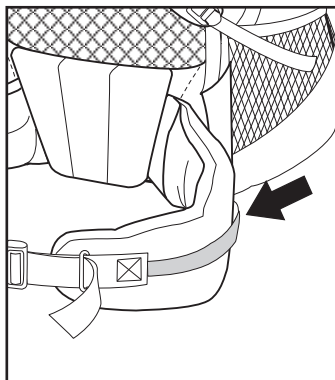

Figure 2J
F. OPTIONAL- Pull the belt stabilizers just snug (Figure 2J). If overtightening them feels good, you might need to bend more curve into the frame in the lumbar region. Overtightening causes gaps between you and the belt. Belt stabilizers are best left loose for the first 15-30 minutes of hiking.